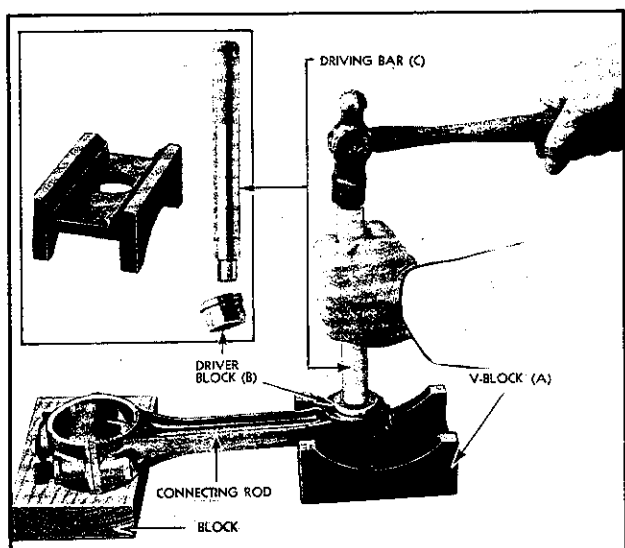

Fig. 6—Removing or Replacing Piston Pin Bushing.
1. **Remove Piston Pin Bushings From Connecting Rod**—Piston pin bushings may be removed from the connecting rod with the tools shown in Fig. 6, and in the following manner:
2. **Replace Piston Pin Bushings in Connecting Rod**—Piston pin bushings are replaced in the connecting rod with the same tool that was used for their removal (See Fig. 6). Each bushing is pressed into the rod, with the split or joint at the top, until outer end of bushing is flush with outer edge of rod; this will leave an oil space of approximately  $\frac{3}{16}$ ".